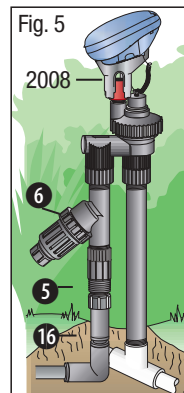

Fig. 5
**c. Above the ground installation using a battery operated controller with anti-siphon valve (Fig. 5):** Use DIG model 2008-I and install it on a 10" to 12" 3/4" riser so it is at least 6" to 8" above the highest dripper or sprayer. Complete the head assembly by attaching a 3/4" #3, MNPT filter, a #5, pressure regulator to the downstream outlet. Finally attach a #16, 3/4" swivel adapter if using polytube, or 3/4" PVC female adapter if using PVC pipe.